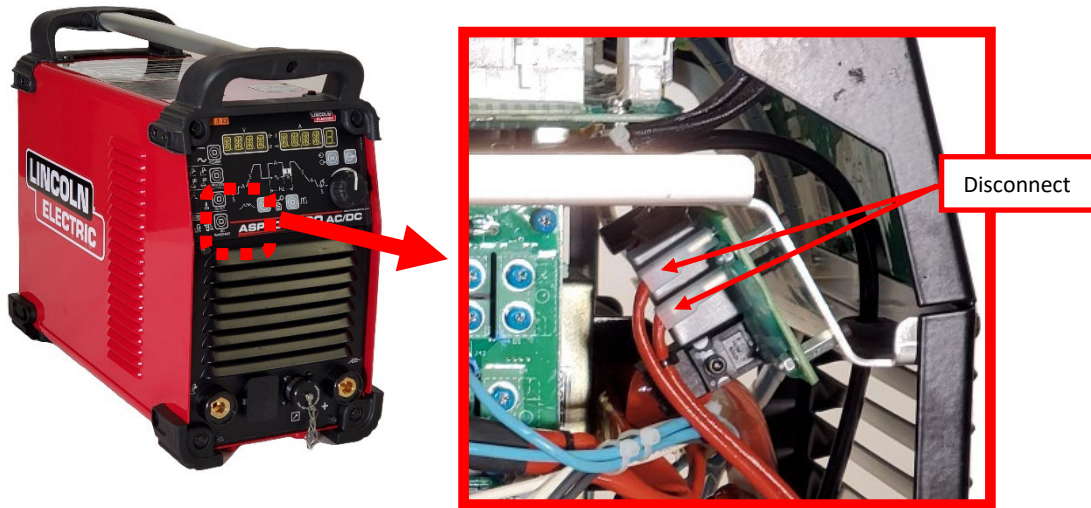

Figure F.3
B.1. Ensure the machine is off, not plugged in or connected to external power. Label and remove connectors identified before proceeding. Refer to Figure F.3 for locations.